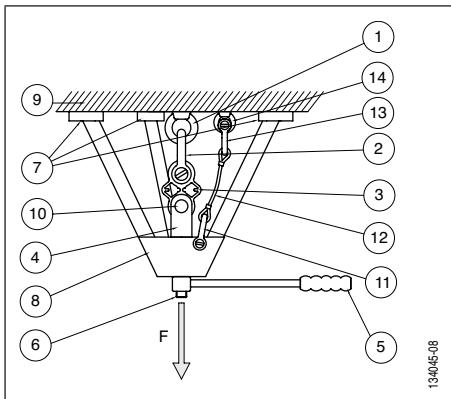
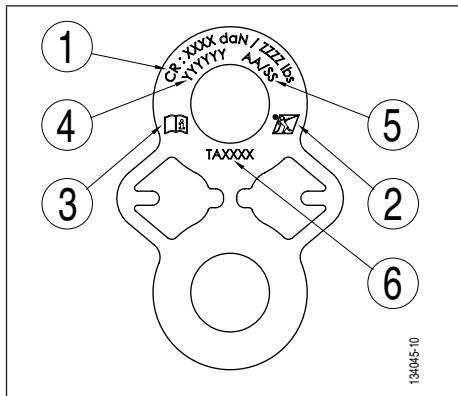
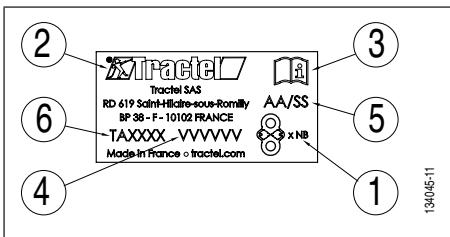

Fig. 6
Fig. 8
Fig. 9
- 1 manually-operated loaded device, tripod type (see Fig. 6, page 5),
- 1 safety device to secure the loading device in the event of shearing of the anchor point tested, comprising of (see Fig. 6, page 5):
- 1 safety sling of appropriate length (see Fig. 6, page 5, sections 4.2. Diagram and 4.3. Checks before installation),
DANGER: To test an anchor point using the TA test plate, the operator must use a manually activated tripod loading device specifically designed and sized for placing under traction load without risking the anchor point to be tested (Fig. 6, page 5) or any other apparatus placed under a load in traction of the TA test plate especially designed and sized to be used in complete safety.
Refer to Fig. 6 for the procedure detailed below.
All of the procedure described below relates to Fig. 6. Refer to Fig. 8, page 13, for the procedure detailed below.
1. Gradually increase the load by acting on the loading device (Fig. 6, page 5, item 8). The operator must continuously observe the plate in order to stop the loading operation immediately on shearing of the 'S' section of the plate (Fig. 9).
Refer to *Fig. 6, page 5*, for the procedure detailed below.